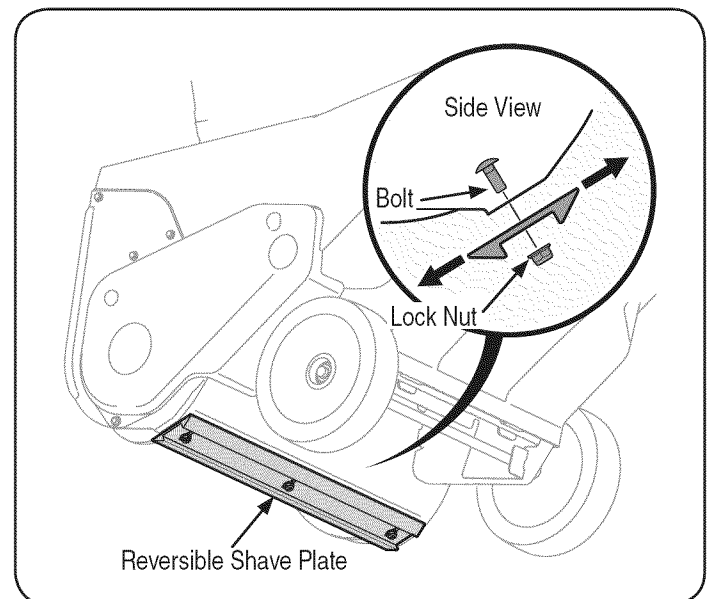

Figure 17
3. Loosen the three flange lock nuts and carriage bolts which secure the shave plate to the housing. See Figure 17. Move the shave plate to the desired position and retighten the nuts and bolts securely.